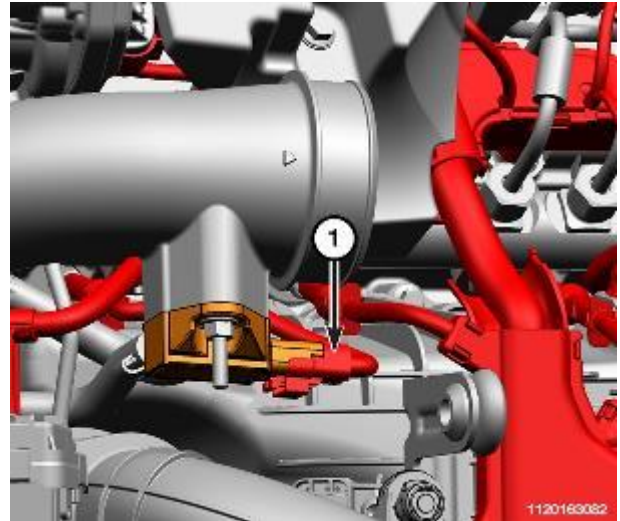

Figure 116 – Pressure Sensor Connector
- 43. Disconnect the differential pressure sensor wire harness connector (1) (Figure 116).